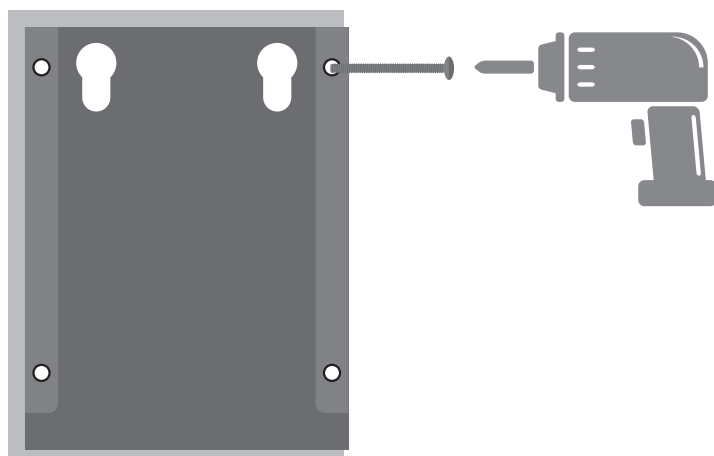

Fig. 5.4.6
5. Fix the bracket to the wall with the expansion screws (See Fig. 5.4.6) included in the package.